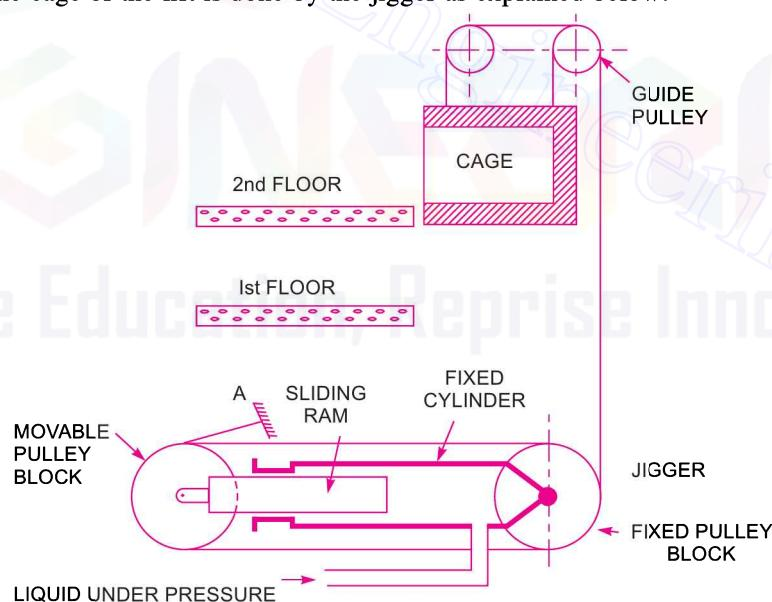

Fig. 21.9 Suspended hydraulic lift.
**21.6.2 Suspended Hydraulic Lift.** Fig. 21.9 shows the suspended hydraulic lift. It is a modified form of the direct acting hydraulic lift. It consists of a cage (on which persons may stand or goods may be placed) which is suspended from a wire rope. A jigger, consisting of a fixed cylinder, a sliding ram and a set of two pulley blocks, is provided at the foot of the hole of the cage. One of the pulley block is movable and the other is a fixed one. The end of the sliding ram is connected to the movable pulley block. A wire rope, one end of which is fixed at A and the other end is taken round all the pulleys of the movable and fixed blocks and finally over the guide pulleys as shown in Fig. 21.9. The cage is suspended from the other end of the rope. The raising or lowering of the cage of the lift is done by the jigger as explained below.